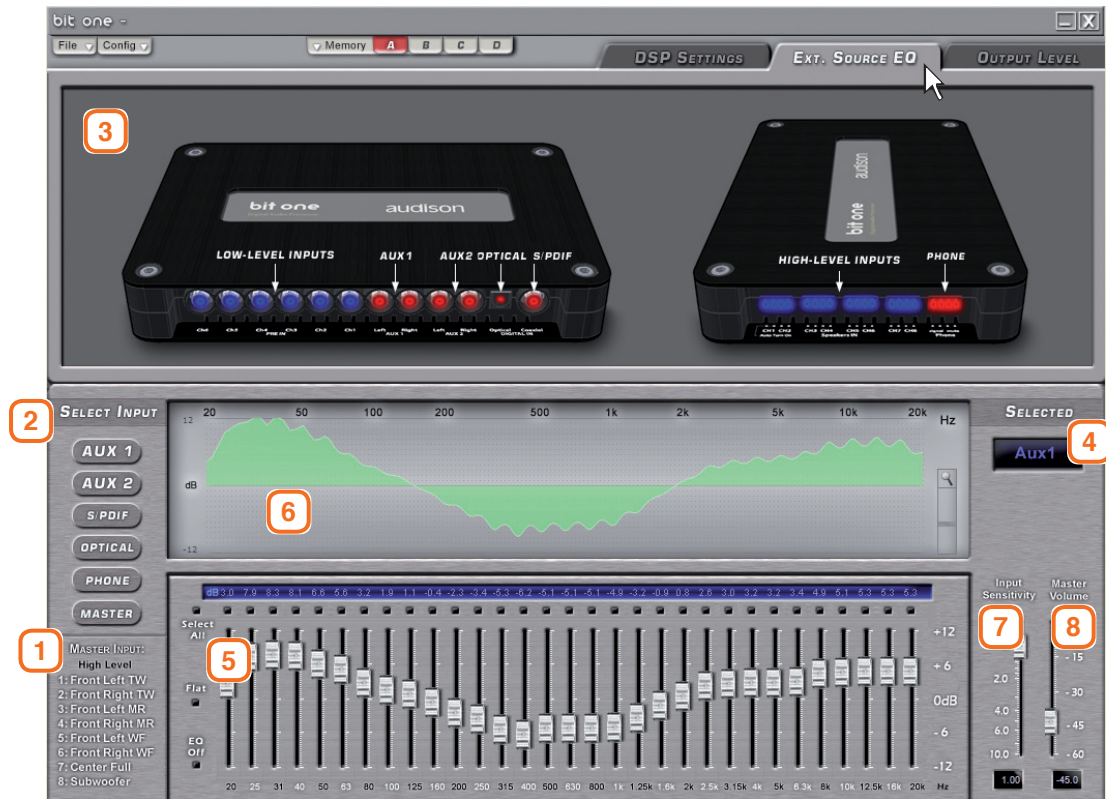

Fig.1
- 2 The "Select Input" section shows a list of buttons corresponding to the inputs that have been selected during the product setup. If you click on the button of an input, that input will become active and the Bit One will reproduce the sound that is applied to that input. Also, the selected input automatically lights up in the two Bit One images on the top. See point n. 3. If during the setup no external sources have been selected, they can be added or removed as follows: select the "Config / External Source" menu (see Fig.1), then select or deselect the desired source.